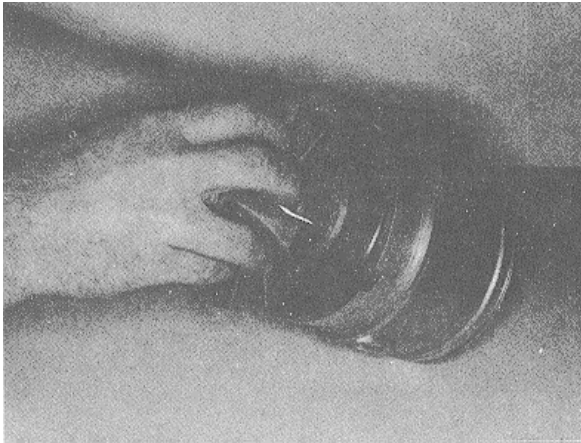

Fig. 10-25, T-532. installing rotor assembly
5. Coat bore of bearing housing with STP oil or equivalent; Insert rotor shaft in housing. Fig. 10-25.